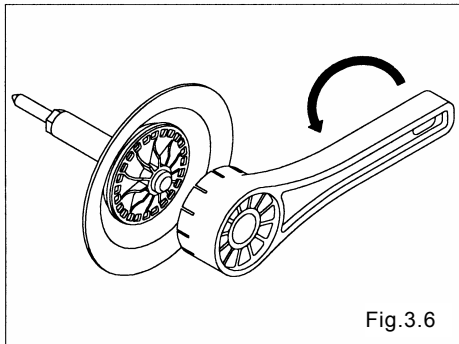

Fig.3.6
- Remove the center disk with supana(21mm), and remove the diaphragm, center disk and O ring (PC, PT) from the center rod. (AD-10P□) [Fig.3.6]
- Remove the center disk with the attached tool (dedicated tool: part No.771244), and remove the diaphragm, center disk and O ring (□T) from the center rod. (AD-25P□, VT) [Fig.3.6]
- Remove the center disk with the PP wrench (dedicated tool: part No.771868), and remove the diaphragm, center disk and O-ring (□T) from the center rod. (AD-40P□, AD-50P□) [Fig.3.6]